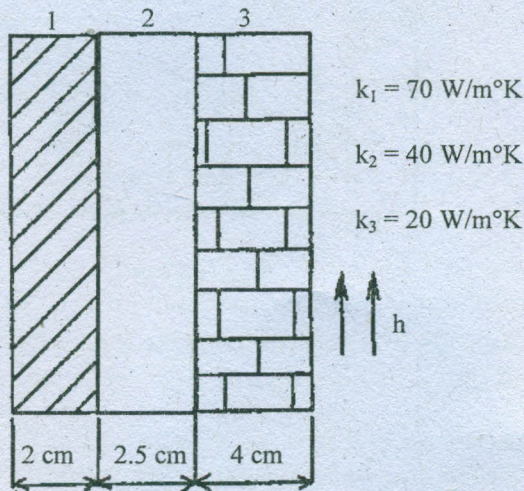

Fig. 15 (a)
15. (a) A composite wall consists of three materials as shown in Fig. 15(a). The inside wall temperature is 200°C and the outside air temperature is 50°C with a convection coefficient of $10 \text{ W/cm}^2 \text{ }^\circ\text{C}$. Determine the temperature along the composite wall.